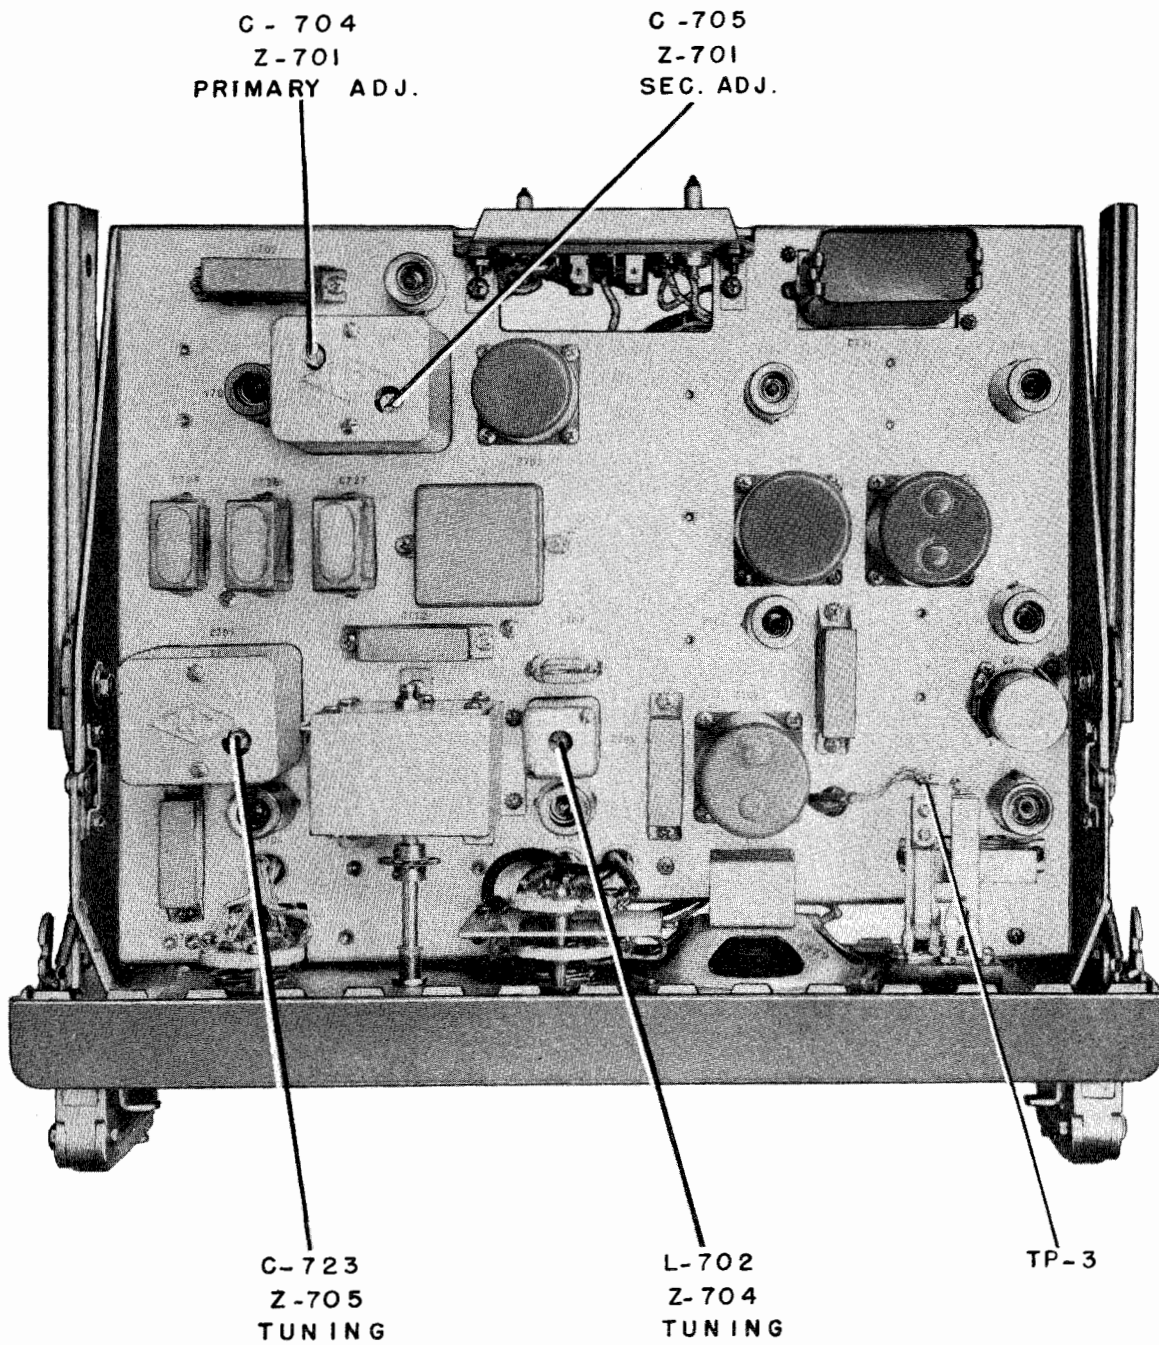

Figure 7-58. Alignment Adjustment and Test Point Locations Top of Chassis, Amplifier-Detector AM-439/FRR-24
(d) TRANSFORMER Z-701, AM-439/FRR-24 (See Figure 7-93).—See Figure 7-58 for alignment adjustment locations.
Step 2. Connect signal generator AN/URM-25 tuned to an R.F. frequency of 51 kc. modulated 30% at 1000 cycles to the input side of C-701 (TP-1, see Figure 7-28) and chassis, in accordance with Method A, Par. 6. a. Connect audio level meter AN/URM-38 to the Phones jack (TP-3, see Figure 7-58). Set the Reception switch at AM.
(c) CRYSTAL OSCILLATOR V-703, AM-439/FRR-24 (Figure 7-93).—See Figure 7-58 for alignment adjustment locations.